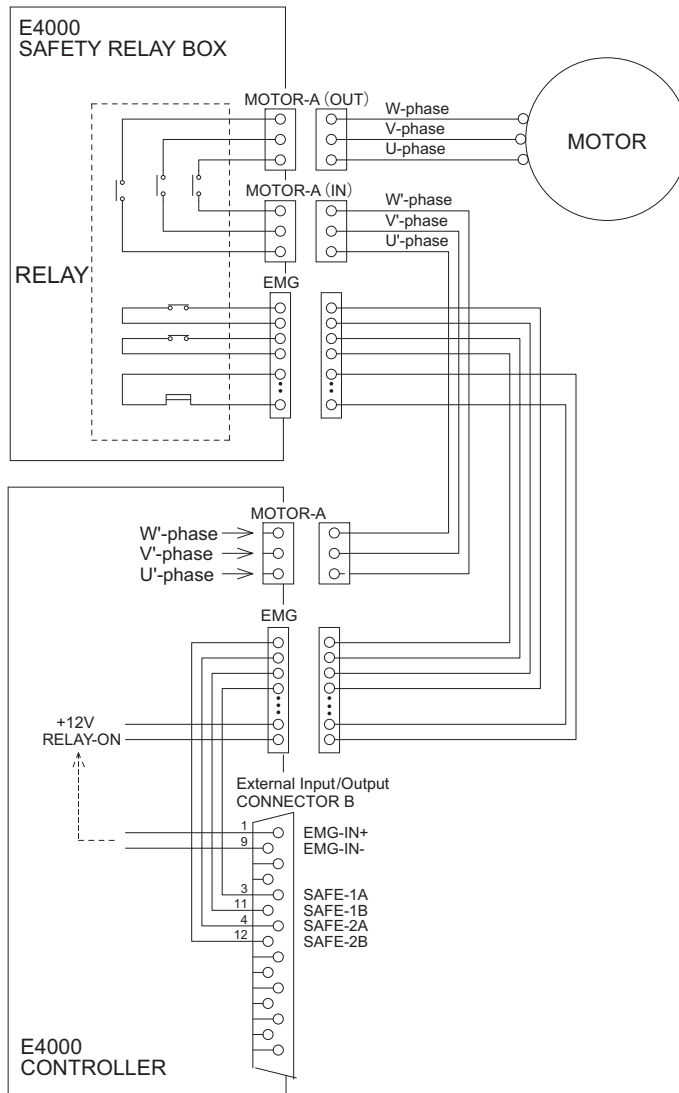

Fig. 9
Refer to P72 "13 - 1 - (1) Detail of External Input / Output connector B Signal " section of the CONTROLLER Operation Manual and Fig. 9.